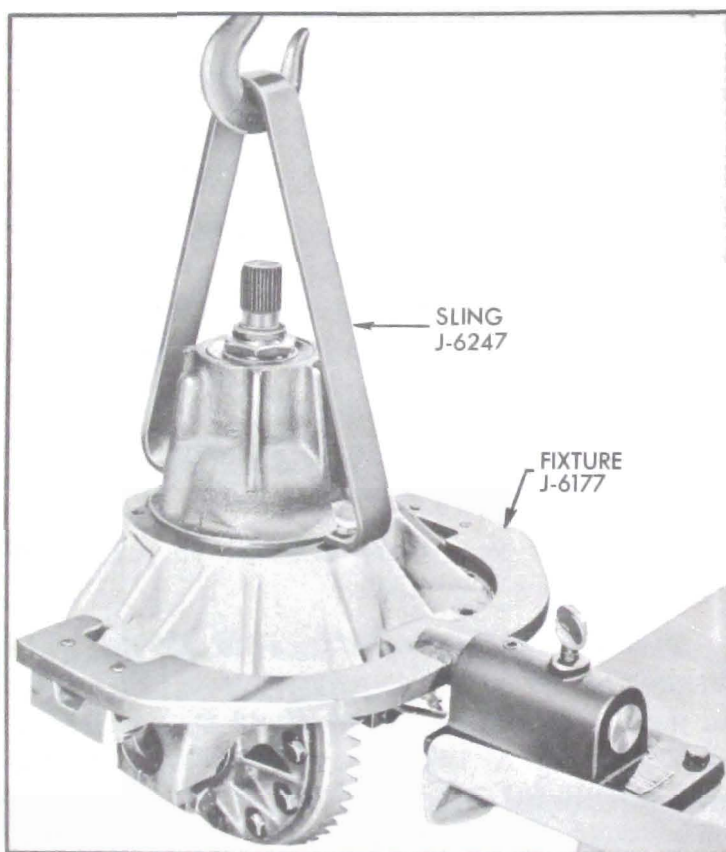

Figure 6-16—Placing Carrier in Holding Fixture
1. Using Sling J-6247, place carrier assembly in suitable mounting fixture such as Fixture J-6177. See Figure 6-16.